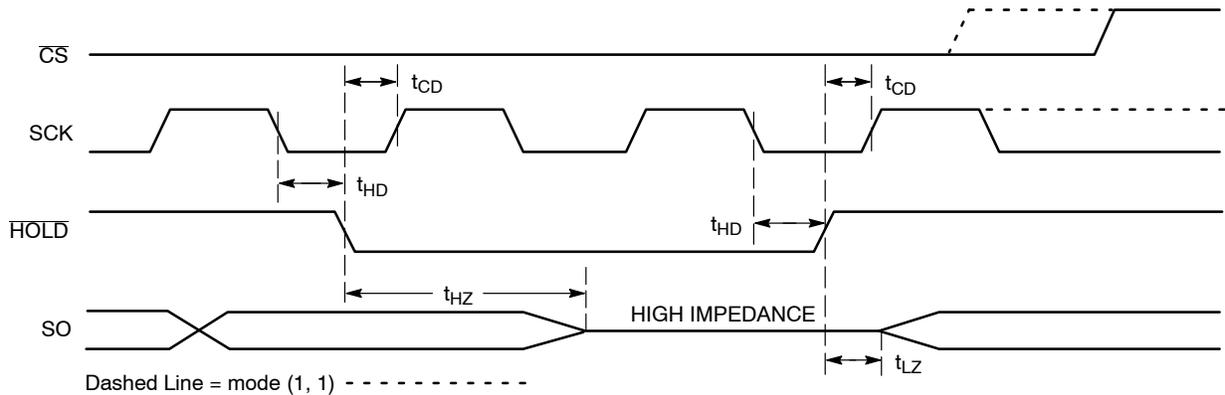

Figure 11.  $\overline{\text{HOLD}}$  Timing
The  $\overline{\text{HOLD}}$  input can be used to pause communication between host and CAV25256. To pause,  $\overline{\text{HOLD}}$  must be taken low while SCK is low (Figure 11). During the hold condition the device must remain selected ( $\overline{\text{CS}}$  low). During the pause, the data output pin (SO) is tri-stated (high impedance) and SI transitions are ignored. To resume communication,  $\overline{\text{HOLD}}$  must be taken high while SCK is low.